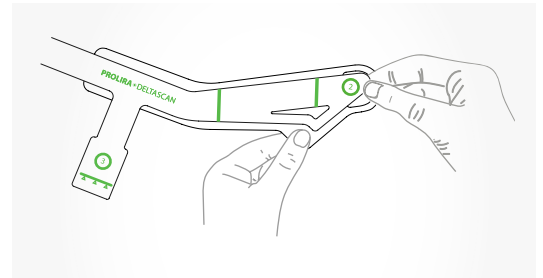

Figure 15: Remove the liner while holding point 2 of the DeltaScan Patch.
- Face the patient. Hold point 2 of the DeltaScan Patch between thumb and index finger, and remove the liner, as indicated in Figure 15.